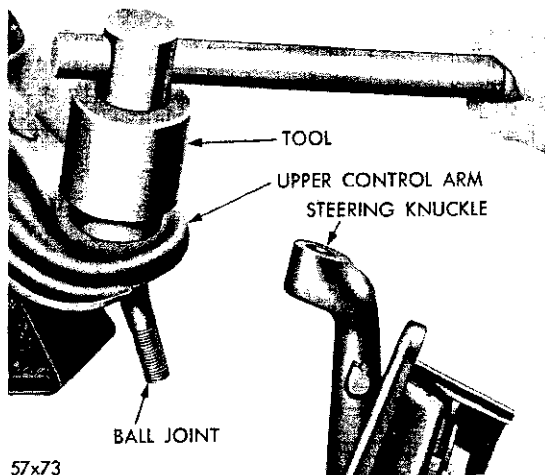

Fig. 8—Removing the Ball Joint
(4) Remove the tool, then disengage the ball joint from the knuckle.
(5) Using Tool C-3560 for models TC-1, TC-2 and TC-3 or Tool C-3561 for TY-1 (Fig. 8) unscrew the ball joint from the upper control arm.